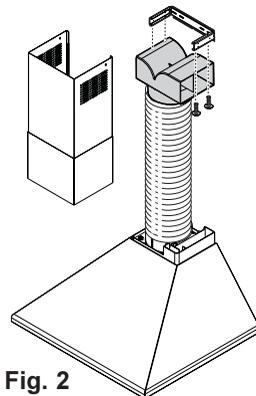

Fig. 2
- Fix the deflector using 4 screw. **Fig. 2**.